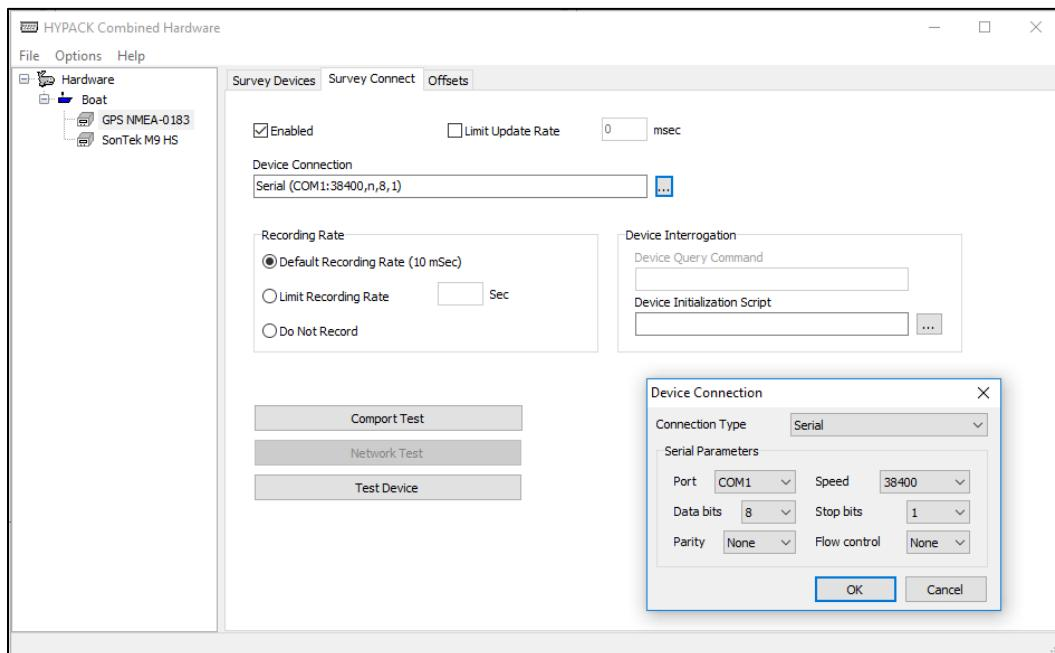

Figure 6.—Survey Connect tab for the selected GPS device within the HYPACK Combined Hardware window.
2. While still within the HYPACK Combined Hardware window, select the “Survey Connect” tab (to the immediate right of the Survey Devices tab). Click on the small box containing ellipsis, just right of the long Device Connection box. In the Device Connection popup window, the user can connect to the GPS device with the following settings (figure 6).
Note: The COM port may vary depending on the user’s laptop (figure 6).
Back under the Survey Connect tab, click on “Test Device” to verify receipt of NEMA string data from the GPS receiver (figure 6).